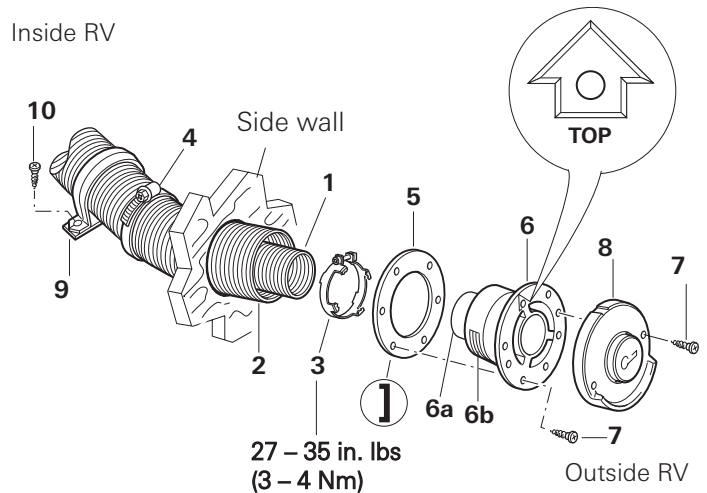

Fig. 12
5. Slide the rubber seal (Fig. 12 – 5) onto the inner part (Fig. 12 – 6) of the wall cowl. Make sure that the smooth side of the rubber seal faces the wall cowl, with the sealing lips facing the side wall.
1. Slide the exhaust tube clamp (Fig. 12 – 3) with the claws facing the wall cowl over the exhaust tube (Fig. 12 – 1).
2. Slide the exhaust tube (Fig. 12 – 1) onto the connection (Fig. 12 – 6a) with the bend facing upwards until it fits snugly.
3. Slide the exhaust tube clamp (Fig. 12 – 3) onto the connection (Fig. 12 – 6a) until it fits snugly. The end stop of the connection must be surrounded by the clamp's claws.
5. Insert the combustion-air supply tube (Fig. 12 – 2) onto the toothed connection (Fig. 12 – 6b).
6. Use 6 screws (Fig. 12 – 7) (B 3.5 x 25) to secure the inner part of the wall cowl (Fig. 12 – 6). Make sure that the arrow with the inscription "TOP" faces upwards.
7. Use the hose clamp (Fig. 12 – 4) to secure the combustion-air supply tube (Fig. 12 – 2) into the connection (Fig. 12 – 6b).
- Use at least one ZRS clamp (Fig. 12 – 9) to secure sections longer than 2 ft (60 cm).
1. Use 2 screws (B 3.5 x 25) to fasten the outer part (Fig. 12 – 8) of the wall cowl in place.